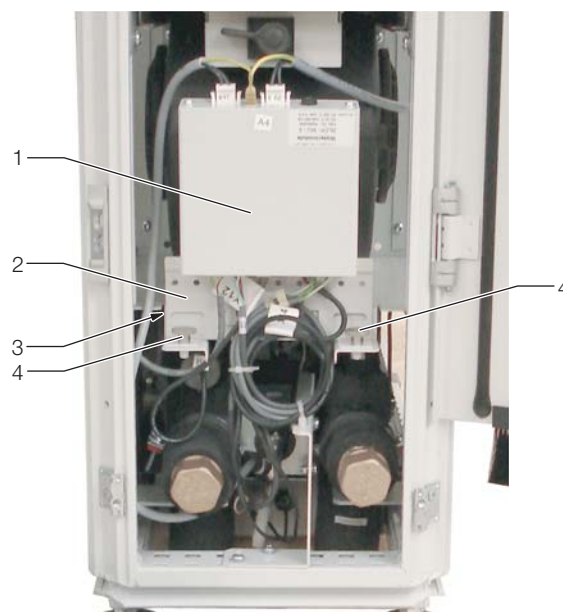

Fig. 32: Water module control unit
- Place the control unit together with the holder (Fig. 32, item 1 and item 3) onto the mounting plate (Fig. 32, item 2) in the Liquid Cooling Package Plus.
- Insert both thumb screws (Fig. 32, item 4) and tighten them.